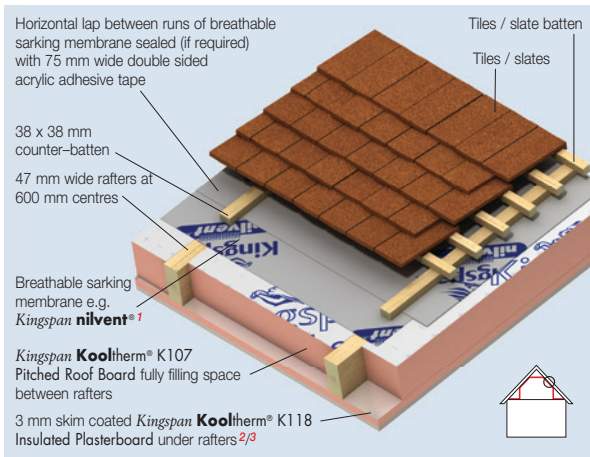

Figure 1a
NB When calculating U-values to BS / I.S. EN ISO 6946: 2007, the type of mechanical fixing used may change the thickness of insulation required. The effect of fixings for Kingspan Kooltherm® K118 Insulated Plasterboard in the U-value calculations for Figures 1a, 1b, 1c, 1d, 2a, 2b, 4a & 4c is insignificant as the insulation layer penetrated is not the main insulation layer. The U-value calculations for Figures 3a & 3b assume that over rafter layers of insulation are fixed using stainless steel fixings with a cross sectional area 7.9 mm², with 3.7 fasteners per m² (insulant thickness 0–40 mm), 6.2 per m² (insulant thickness 41–60 mm), 8.3 per m² (insulant thickness 61–80 mm) and 10.0 per m² (insulant thickness 81–100 mm). The U-value calculations for Figures 3a & 3b also assume that over rafter layers of insulation are fixed using stainless steel fixings with a cross sectional area 9.1 mm², with 11.1 fasteners per m² (insulant thickness 101–125 mm). Please contact the Kingspan Insulation Technical Service Department (see rear cover) for project calculations.
- ¹ In Figures 1a & 3a the breathable sarking membrane can be placed over the counter-battens, draped to provide for drainage and overlain with tile / slate battens. This will yield a marginally better U-value but it will be more difficult to seal the breathable sarking membrane effectively.